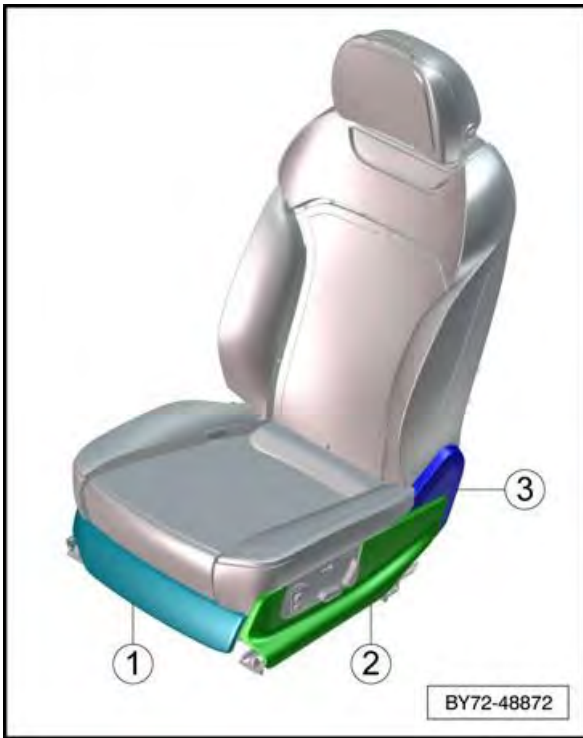

Figure 47
4. Remove rear seat side valance (2) (see Figure 47). Refer to Rear seat valance – To remove and fit Rep.Gr. 72
5. Remove rear seat side valance (rear) (3) (see Figure 47). Refer to Rear seat valance – To remove and fit Rep.Gr. 72